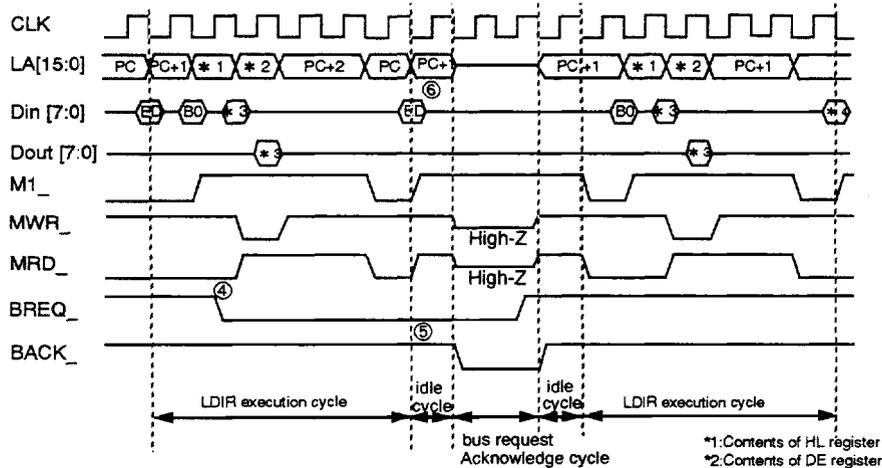
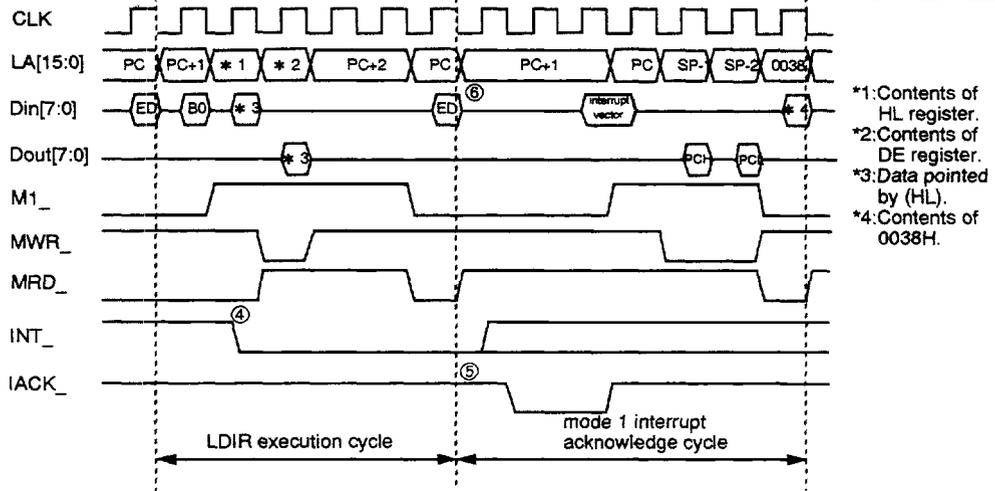

Figure 5-18. Bus request accepting timing
Figure 5-19 .Interrupt acknowledge cycle in mode 1
For example, under normal condition, the prefetched instruction, at address 1000h, data 77h at ③ in Figure 5-15 on execution of the instruction, JP 1000h is held and execute correctly. However, on interrupt the prefetched instruction will be discarded and refetch on return from an interrupt service routine. On interrupt recognition, PC is decremented by one before saved onto stack. On RETI or RETN instruction the PC will be loaded with the address of the discarded instruction. Figure 5-19 has the timing diagram for the case of receiving interrupt in mode 1 when executing LDIR instruction. In the figure, the data "EDh" prefetched at ④, is discarded and then go to interrupt service. On return, the CPU resume from the prefetch of this "EDh". For the bus request cycle, the data "EDh" prefetched at ⑤ prior to the bus request will be kept, and on bus release the CPU starts to prefetch from the next address to the "EDh" as shown in the Figure 5-18.
of an execution cycle, not the end of the instruction. As shown in the Figure 5-18, BREQ_ is asserted at point ④ during the execution, the bus is released at the last execution cycle of an instruction ⑤.
The Figure 5-19 show the interrupt acknowledge timing. In this figure, an interrupt is accepted during block move instruction. ④ shows that when an interrupt request occurs, the interrupt will not be accepted until the prefetch cycle of the last instruction, ⑤. In this case, the data "EDh" fetched at ⑥ will not be kept by the CPU, and it will be refetched on the return from an interrupt.